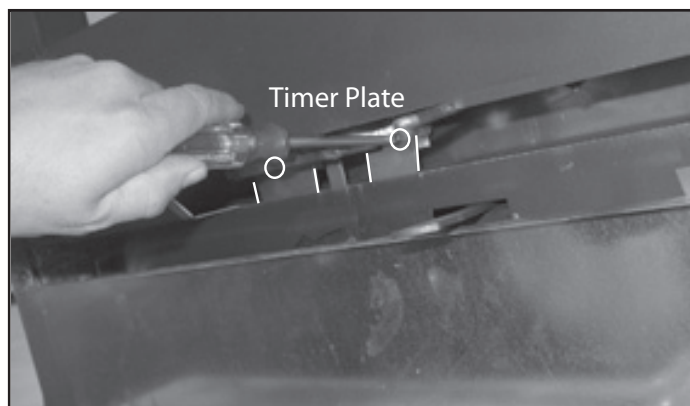
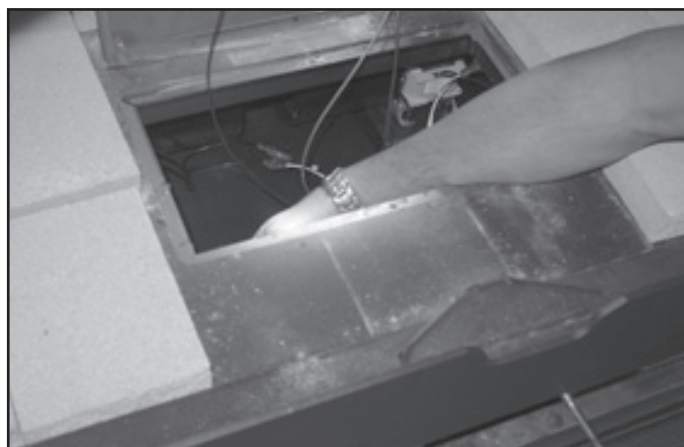
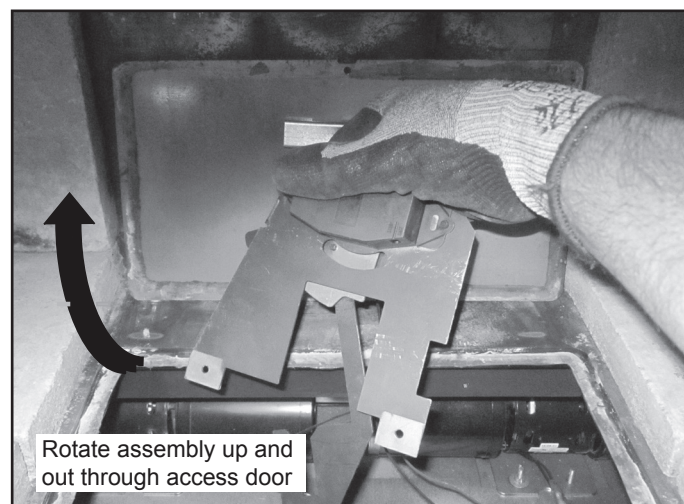

Figure 4.16 Remove Screws from Timer Mounting Plate
Figure 4.17 Hand in Access Door
Figure 4.18 Removing Timer Assembly
- Remove two screws from timer mounting plate (Figure 4.16). Place your hand into the access door (Figure 4.17) in the floor of the fireplace. Let the timer assembly and plate drop down and rotate it up through the access door. You will be looking at the back side of the assembly. See Figure 4.18.
- Insert the new timer assembly into the access door with the back side towards you. See Figure 4.18.
- Using a 7/16 wrench, remove the (2) 1/4-20 bolts holding the old air chamber cover on and discard it. See Figure 4.18. Install the new cover where the old one was.